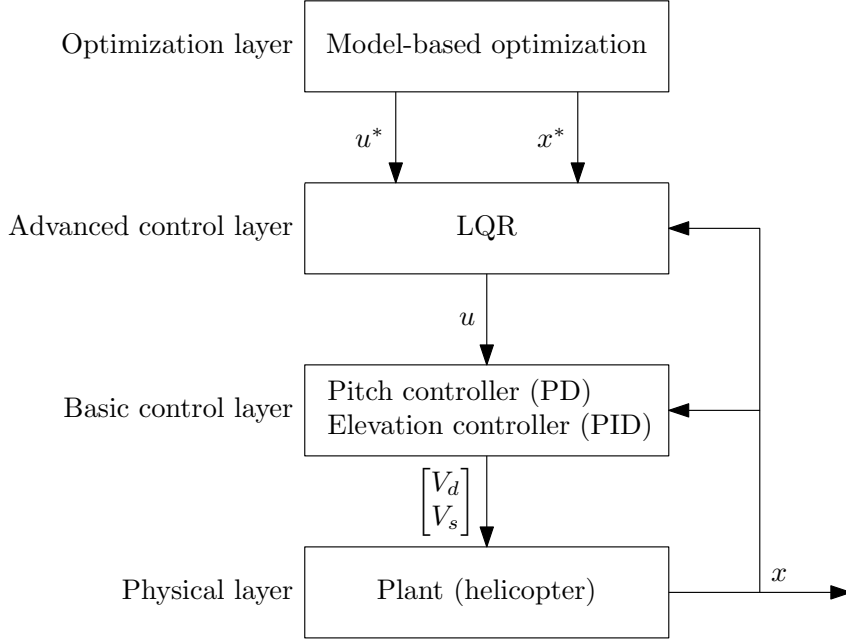

Figure 8: Illustration of the layers in the control hierarchy used in Sections 10.3 and 10.4.
As long as the system is following the calculated optimal trajectory  $x^*$  the calculated input sequence  $u^*$  is implemented. If a deviation from  $x^*$  is observed, the manipulated variable will be modified by the feedback term. This new control hierarchy is illustrated in Figure 8.
3. An alternative strategy would be to use an MPC controller. How would you realize this controller? Discuss advantages and disadvantages with an MPC controller compared to the controller you have implemented. Also, think about how the structure in Figure 8 would look if you used MPC.